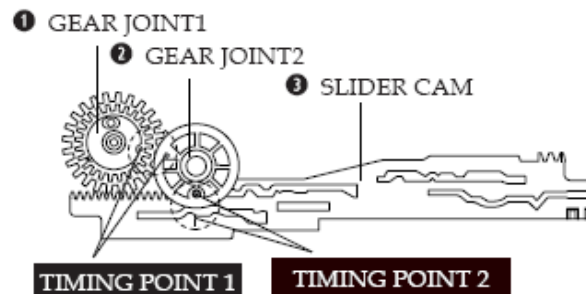

Fig. 3-20 Gear Joint 1,2 Assembly
- 1) Be sure to align dot mark of Gear Joint 1 ❶ with dot mark of Gear Joint 2 ❷ as shown Fig 3-20. (Refer to Timing point1)
- 2) Confirm the Timing Point 2 of the Gear Joint 2 ❷ and Slider Cam ❸.